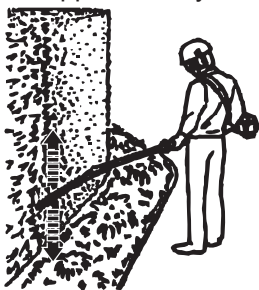

Fig. 12
6. Always hold the product firmly with both hands on soft grip (9) of the front pole (8) and the rear handle (12). Never operate this product using only one hand.
8. First cutting both sides from the bottom upwards to the top. This will prevent any of the cuttings falling into the path of the area still to be cut (Fig. 12).